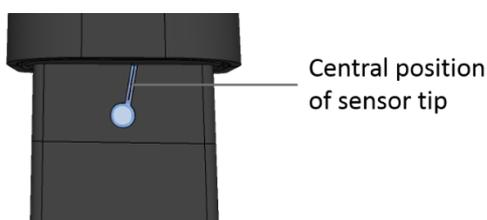

Figure 11: Sensor position.
11. Carefully push the plunger of the pH microsensor and observe if the sensor tip moves out in the center of the sensor groove. If not turn the pH microsensor till the sensor tip reaches a central position ((Figure 10D & Figure 11). This assures that the sensor tip moves into the sample cover groove without breaking.